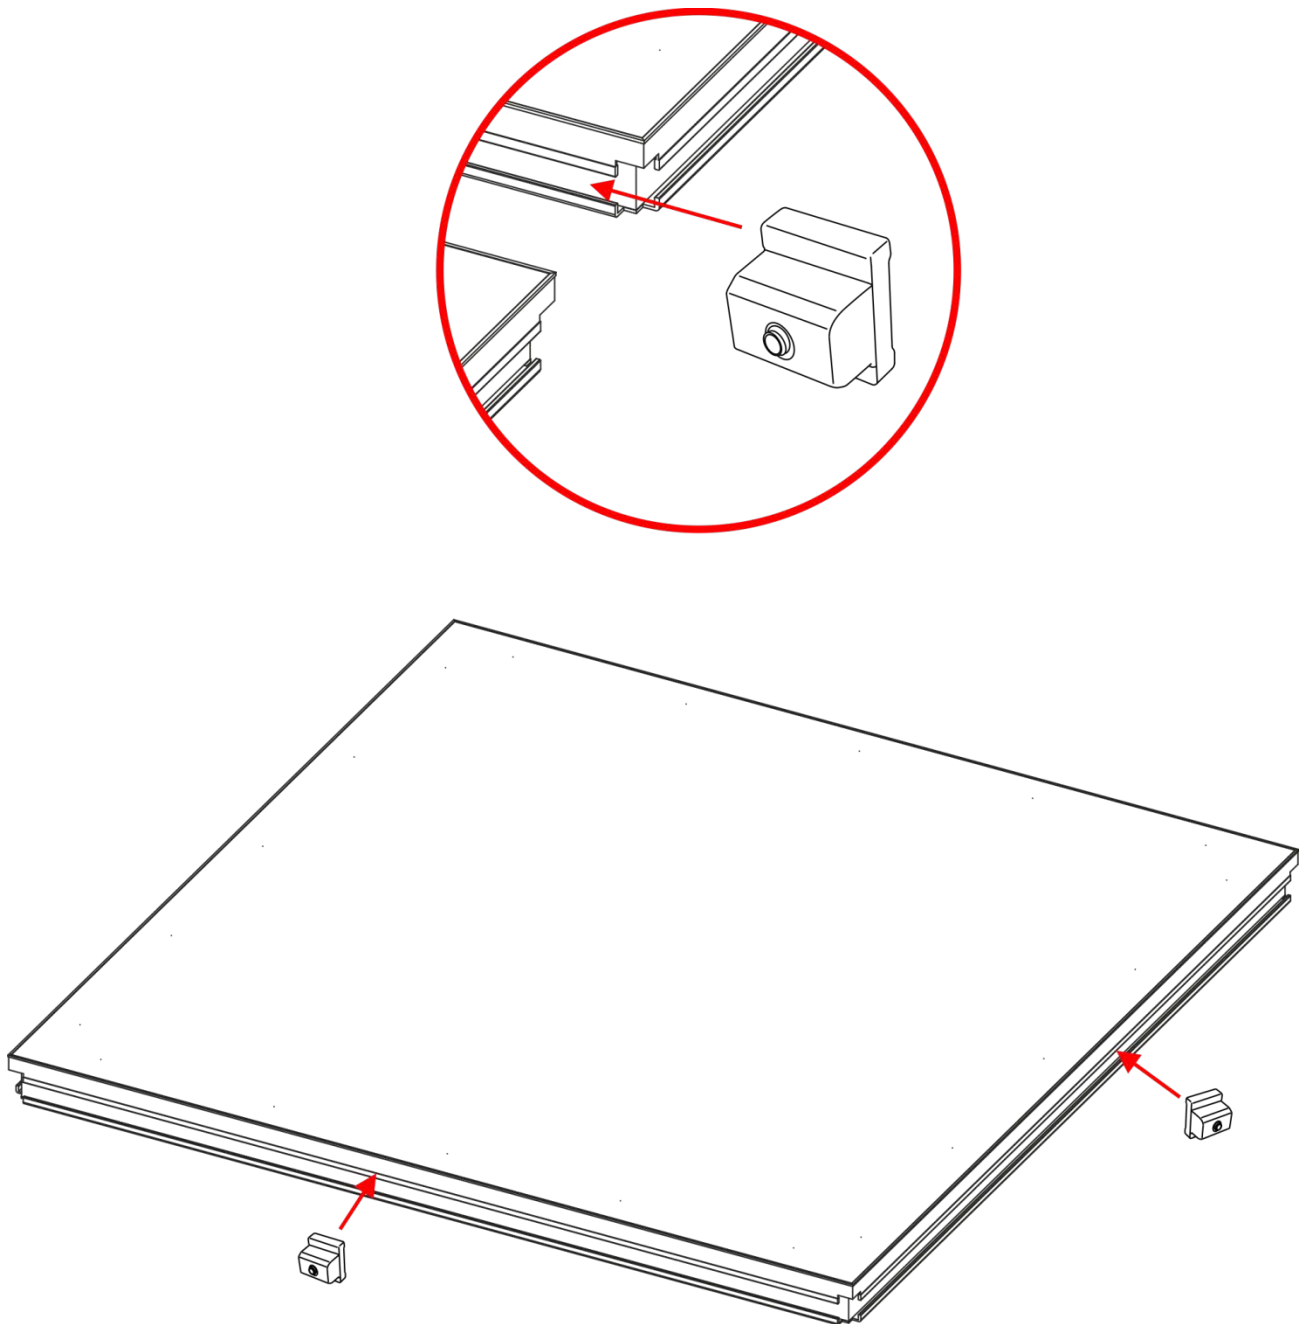

Fig. 05
- 02) In order to level the two sets, insert the Spider Stage Self-leveling Insert (**70637**) in between the two stage decks (see fig. 05).